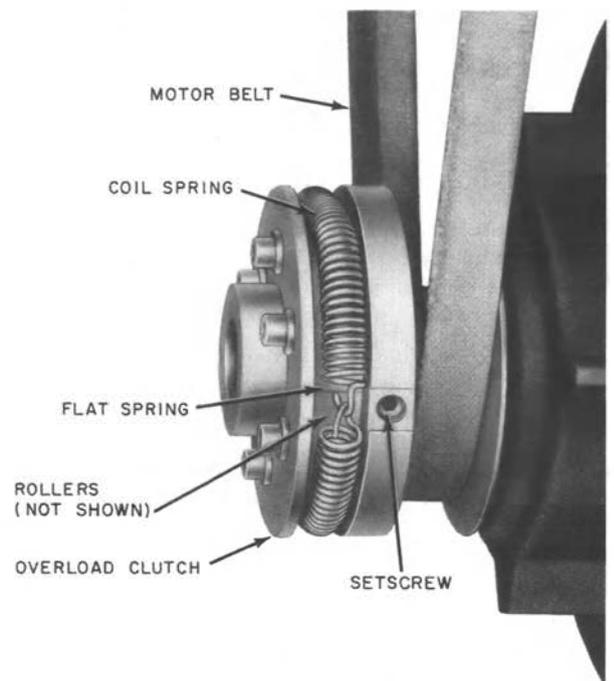

Fig. 28—Pulley Assembly
3.13 Overload Clutch Coil Spring: To replace the overload clutch coil spring (Fig. 28), proceed as follows.
3.14 Overload Clutch Flat Spring and Rollers: To replace the flat spring or rollers (Fig. 28), proceed as follows.